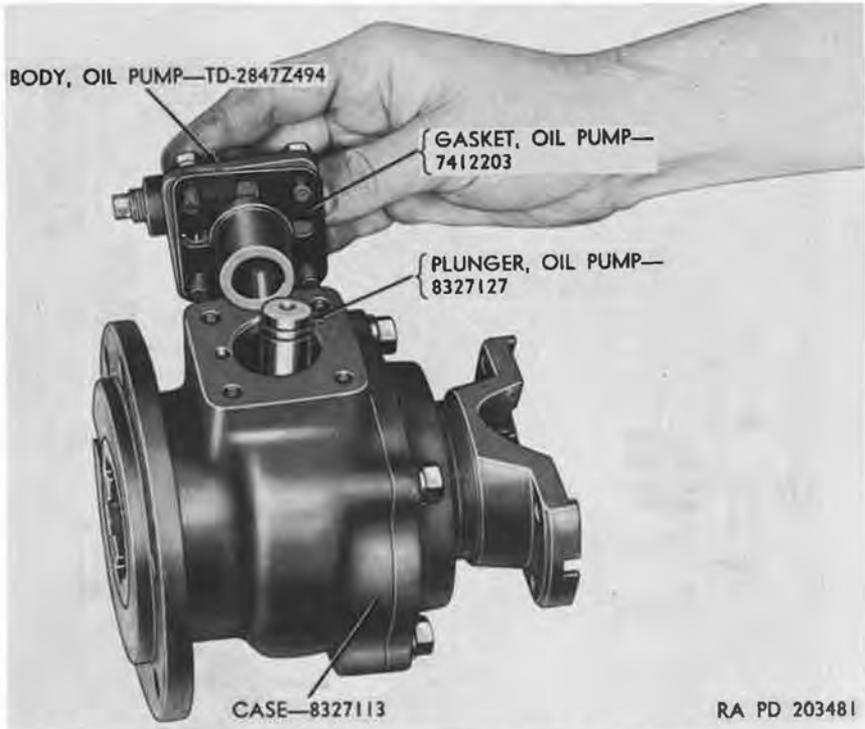
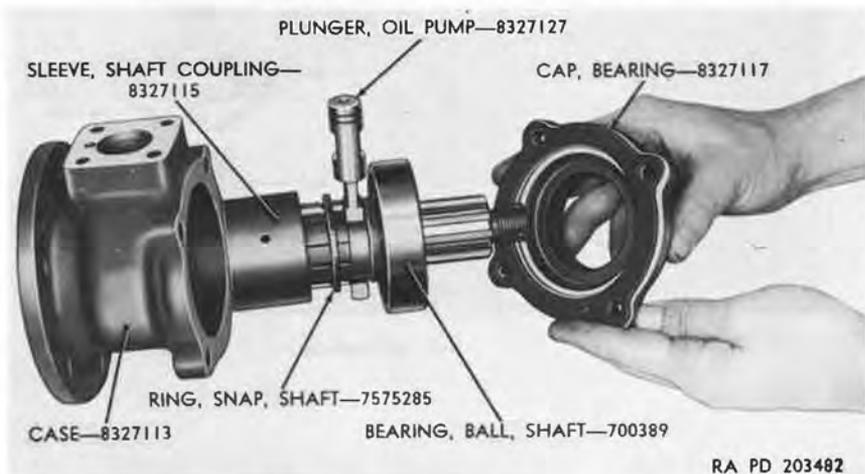

Figure 82. Removing power-take-off oil pump body.
Figure 83. Power-take-off case components removed.
a. Remove four hex head bolts (Q) and medium lockwashers (R) and lift the oil pump body (S) from the case (fig. 82).
b. Remove 90° elbow (P) releasing inlet check ball (N) and inlet ball spring (M).
c. Remove outlet ball plug (K) releasing outlet ball spring (L) and outlet check ball (J).
d. Remove shaft nut (A) and flange washer (B) and remove companion flange.
e. Remove four hex head bolts (Z), medium lockwashers (Y), and remove bearing cap (fig. 83).
f. Remove oil pump plunger (G) from cam on shaft (U) and pull shaft assembly from case (fig. 83).
g. Press shaft ball bearing (F) from shaft (U) and remove shaft snap ring (fig. 83).
h. If inspection (par. 130) warrants replacement, press oil seal assembly (C) from bearing cap (D).